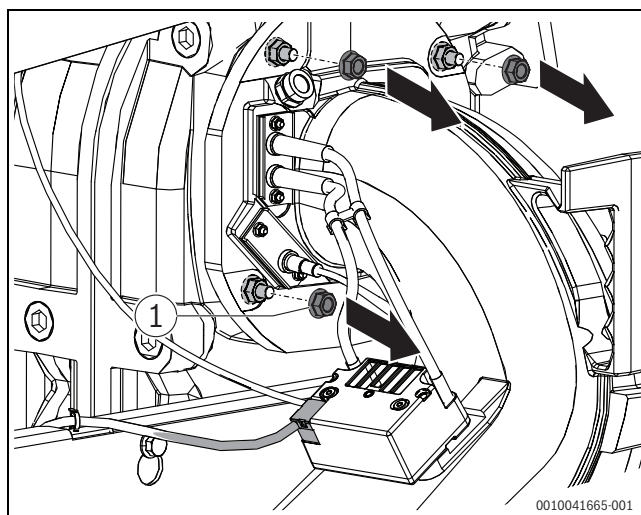

Fig. 9 Unplug the plug on the ignition transformer and remove the nuts on the mixture manifold / front section
- Unplug the plug on the ignition transformer (→Fig. 9).
- Remove the 4 nuts on the mixture manifold / front section (→Fig. 9).